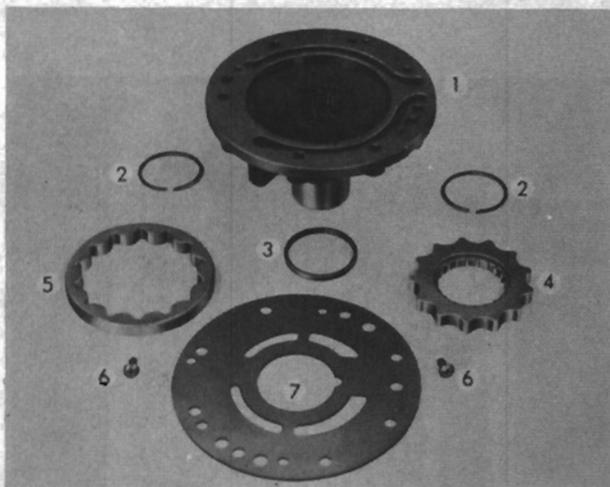

FIG. 303
Remove the two (2) piston ring type oil seals (2, Fig. 303) from the high range clutch journal on the front pump. Remove the two (2) screws (6) from the pump cover and remove the cover (7). Mark the internal and external tooth gears (5 and 4) with crayon or pencil to aid in assembly and remove the gears from the pump body, and also remove the spacer ring (3) from the pump body.